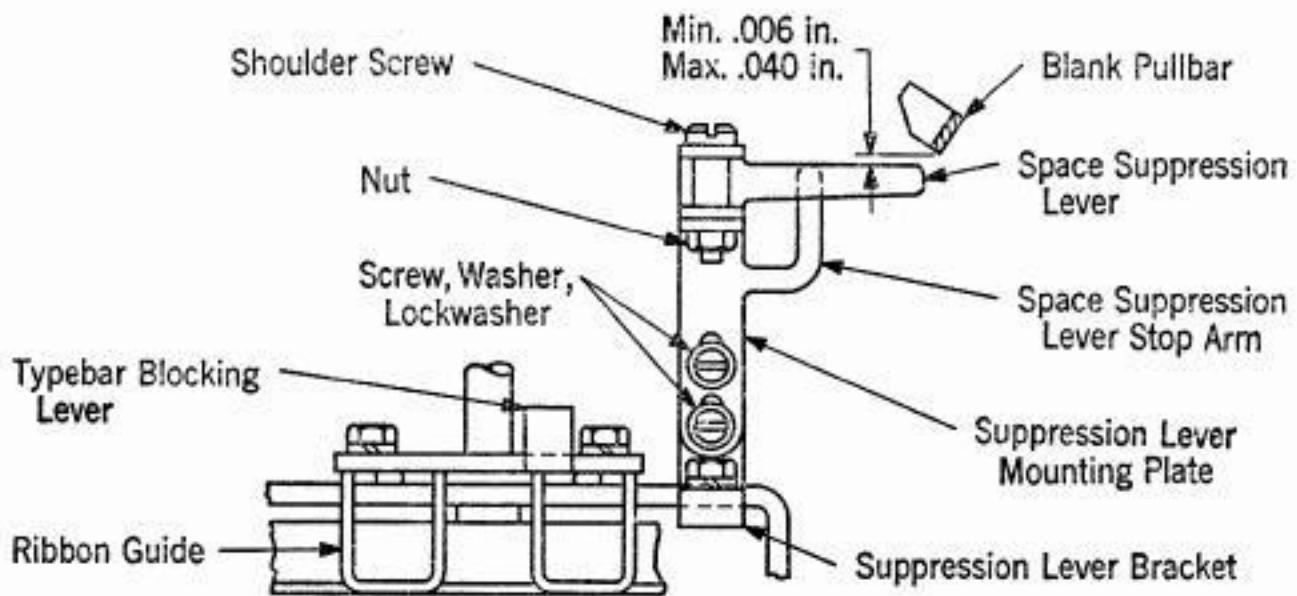

FIG. 2
2.04 Clearance between rear edge of space suppression lever and vertical edge of blank pull bar shall be Min. .066", Max. .040", with the carriage in the shifted position, and after the "blank" combination has been set up and the motor rotated by hand until the blank pull bar moves into the path set up for it in the code bars. See Fig. 2.